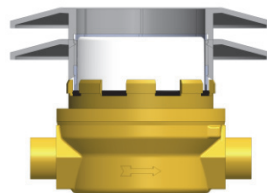

Fig. 5
- 2.19. Insert rosette and if required due to the large insertion depth, one to three extension connectors (Fig. 5).
- 3.6. In the case of regular calibration exchange Minomess WE, re-mount the rosette. If changing meter manufacturer to Minomess WE, fit a new rosette (Fig. 5).